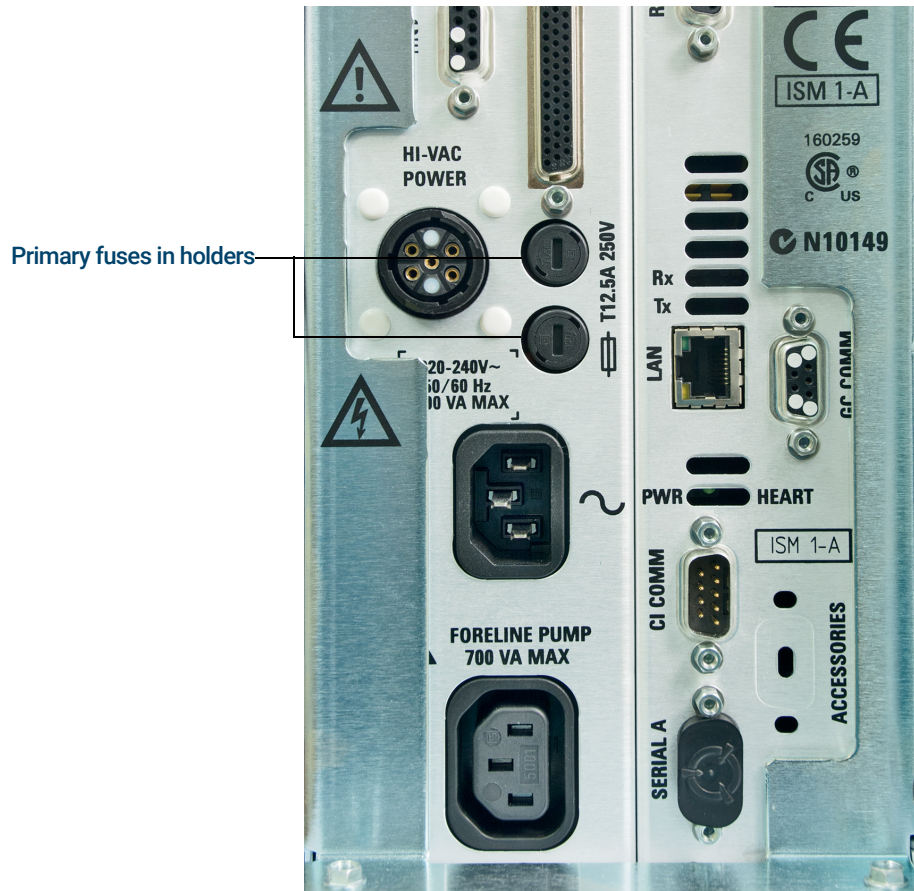

Figure 22. Primary fuses (turbo model shown)
- 2 Turn one of the fuse holders counterclockwise until it pops out. (See **Figure 22** on page 137.) The fuse holders are spring loaded.